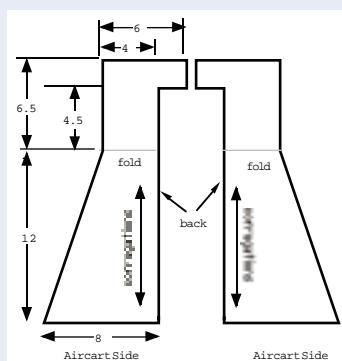

Figure 3. Aircart sides
2. Sides (Fig. 3): The aircart sides form a structure for attaching the motor. When glued to the base, they form two legs of an equilateral triangle.